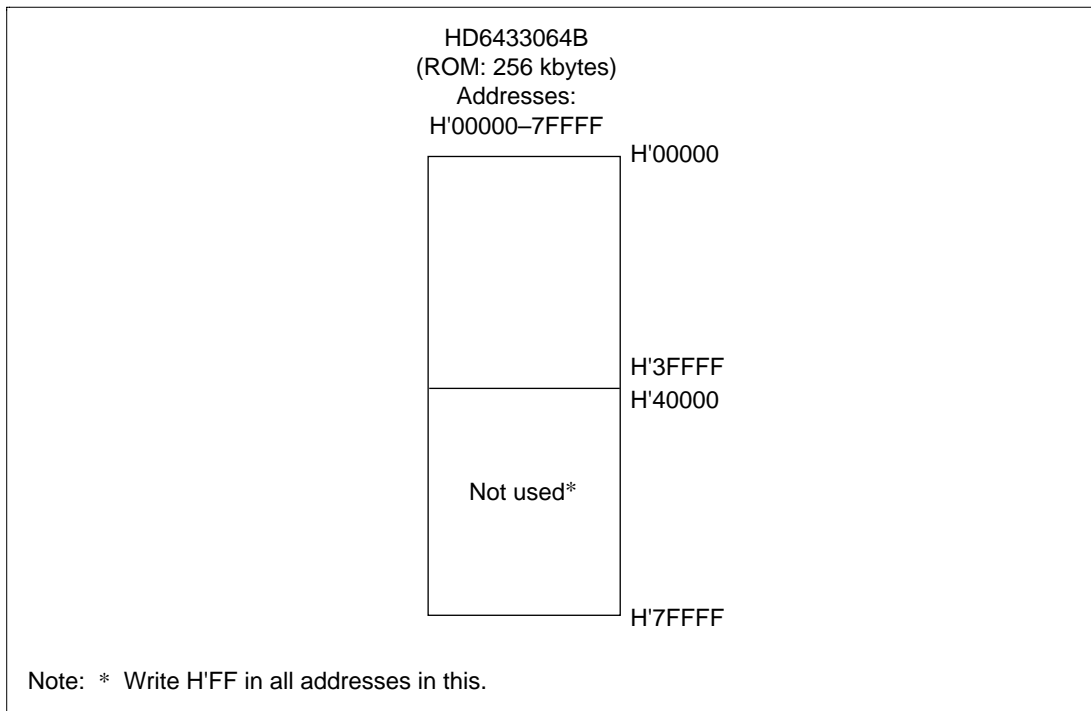

Figure 18.20 Mask ROM Addresses and Data
2. Fill all unused addresses with H'FF as shown in figure 18.20 to make the ROM data size 512-kbytes for the H8/3064 mask ROM version. This applies to ordering by means of an EPROM and by means of data transmission.